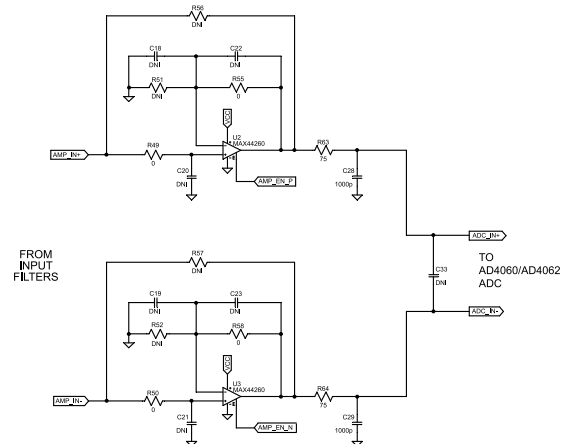

Figure 11. Default Amplifier Circuit Simplified Schematics
- ▶ MAX44260 operational amplifiers in 6-lead SC70 footprint configured as unity-gain buffers by default (see Figure 11)